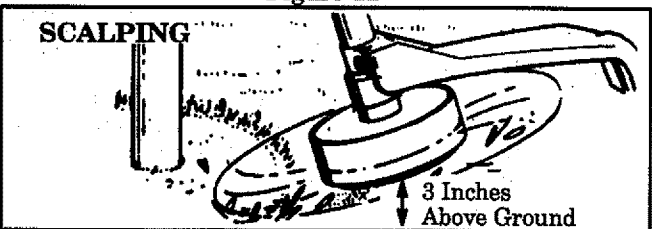

Figure 13
2. **SCALPING** - FIGURE 13 . The scalping technique removes unwanted vegetation. Hold bottom of the trimmer head about 3" (7.5 cm) above ground and at an angle. Allow the tip of the line to strike the ground around trees, posts, monuments, etc. This technique increases line wear.